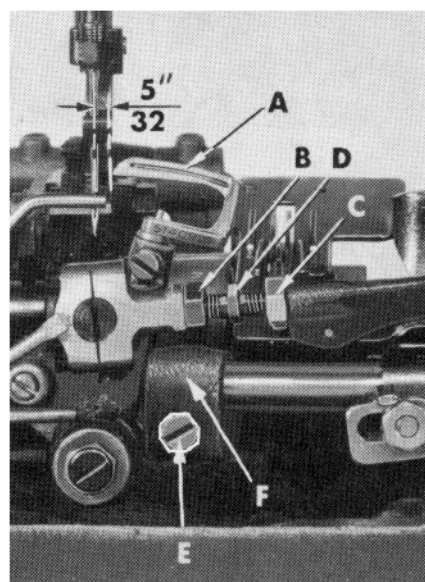

Fig. 2
Insert a new needle, type and size as specified, with spot or scarf to the rear. With the looper (A, Fig. 2) at its farthest position to the right, its point should be 5/32 inch from the centerline of the needle. If adjustment is required, loosen nut (B) (it has a left hand thread) and nut (C) on connecting rod (D) and turn the connecting rod forward or backward to obtain the 5/32 inch dimension (Fig. 2). Looper gauge No. 21225-5/32 can be used advantageously in making this adjustment. Retighten both nuts, first nut (C), then nut (B). Make sure the left ball joint is in vertical position and does not bind after adjustment.
The looper is set correctly front to back, as it moves to the left behind the needle, when its point passes as close as possible without contacting the needle (.001-.002). If adjustment is necessary, loosen screw (E, Fig. 2) in looper rock shaft arm (F), reposition looper as required and retighten screw (E).